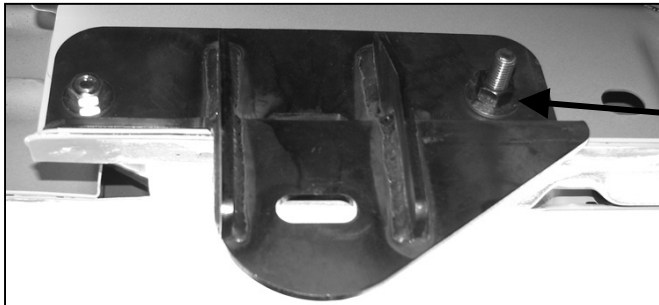

Fig 6
- a. **REGULAR CAB:** Select (1) 12mm Bolt Plate and thread (1) 11mm Plastic Retainer part way onto it. Insert the Bolt Plate and Retainer into the rear mounting hole, **(Figure 6)**. **IMPORTANT:** The Plastic Retainer is designed to prevent the Bolt Plate from falling into the body cavity and to aid in mounting the Bracket. Once inserted, thread the Plastic Retainer all of the way down to snug up against the body.
7. Hang the driver side Rear Mounting Bracket from the Bolt Plate and Retainer and secure it with the included (1) 12mm Lock Washer, (1) 12mm Flat Washer, and (1) 12mm Hex Nut, **(Figure 6&7)**. Insert (1) 10mm x 35mm Hex Bolt, (1) 10mm Flat Washer with (1) 9mm Plastic Retainer into the hole at the rear of the Mounting Bracket from the outside-in, **(Figure 8)**. **NOTE:** The Plastic Retainer is intended to protect the outer painted surface of the body. Thread the Plastic Retainer onto the Hex Bolt so that it is between the 10mm Flat Washer and the body. Secure the Bracket with (1) 10mm Lock Washer, (1) 10mm Flat Washer and (1) 10mm Hex Nut. Do not tighten hardware at this time.
8. Attach the Sidebar to the Mounting Brackets using the included (2) 1/2" x 2" Hex Head Bolts, (2) 1/2" Flat Washers, and (2) 1/2" Lock Washers. Do not tighten hardware at this time.